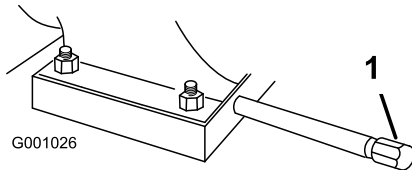

Figure 48
- Clean the area around the oil drain cap (Figure 48).